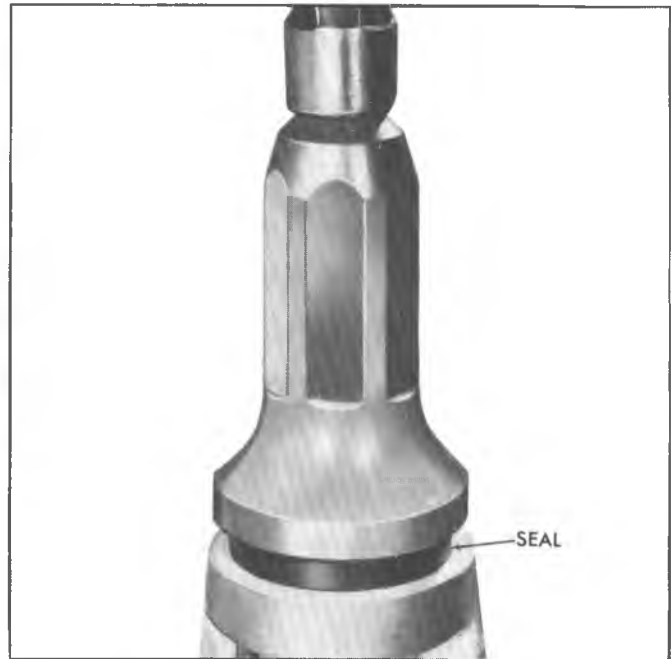

Fig. 17B—Installing Extension Oil Seal (Typical)
- a. (All except CA and CL Models) use a non-hardening sealer on outside of seal body; and using Tool J-21359, drive seal in place (fig. 17B).
- b. (Model CL) use a non-hardening sealer on outside of seal body; and using Tool J-24057 drive seal in place (fig. 17B).
- c. (Model CA) use a non-hardening sealer on outside of seal body; and using Tool J-21426, drive seal in place (fig. 17B).